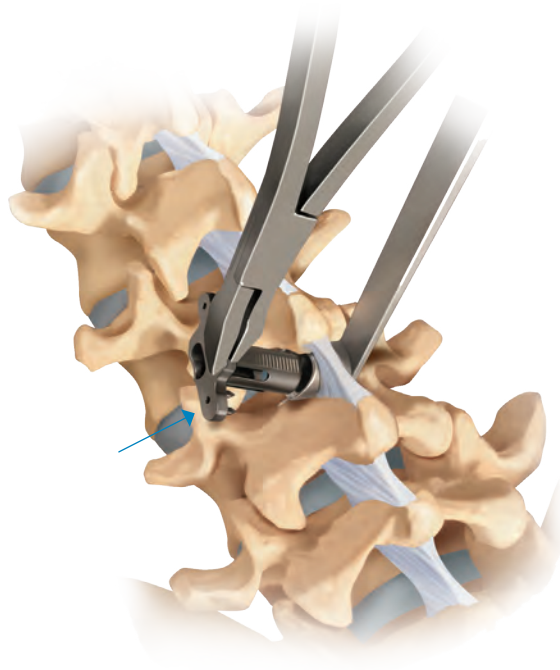

Figure 15
- From the opposite side of the sleeve's handle, introduce the implant barrel into the sleeve's cannula (**Figure 15**).